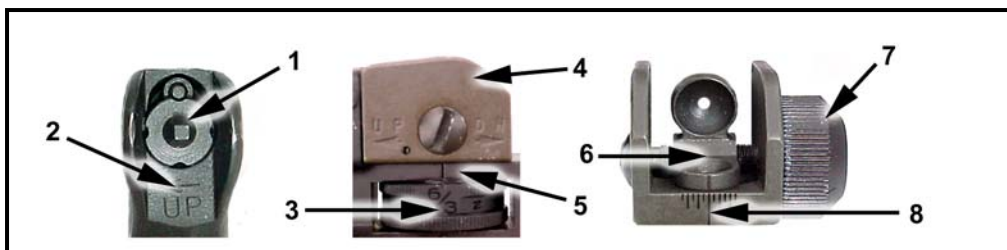

Figure 2-8. M16A4 MWS mechanical zero.
(1) ***Mechanically Zeroing the M16A4.*** Mechanically zeroing the weapon is only necessary when the weapon zero is questionable, the weapon is newly assigned to the unit, or the weapon sights have been serviced. If necessary, the soldier should mechanically zero the weapon as follows (Figure 2-8):